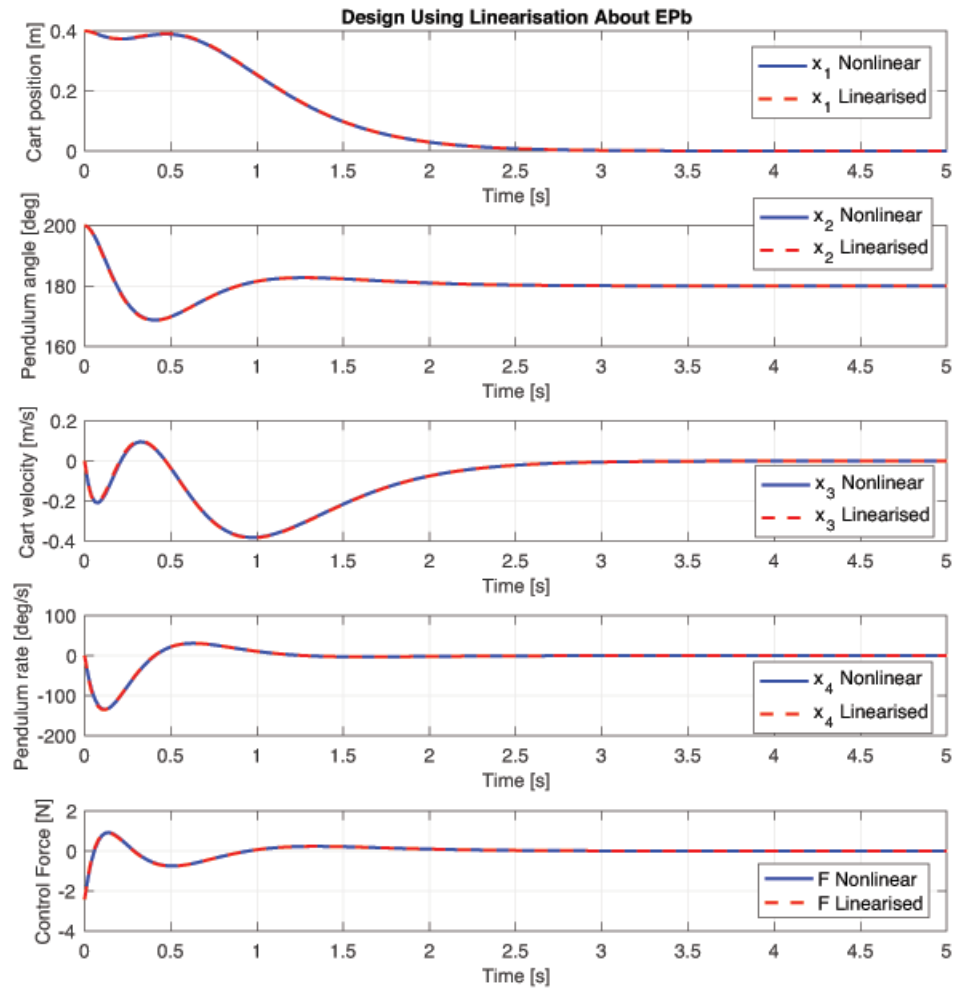

Figure 5: Time histories of the states and input.
- f) Plot the results of the simulations in a figure that shows the time histories of the position of the cart, the angle of the pendulum, the velocity of the cart, the angular velocity of the pendulum and the control forces for both the linearised and nonlinear control systems. An example of the simulation results is shown in Figure 5.